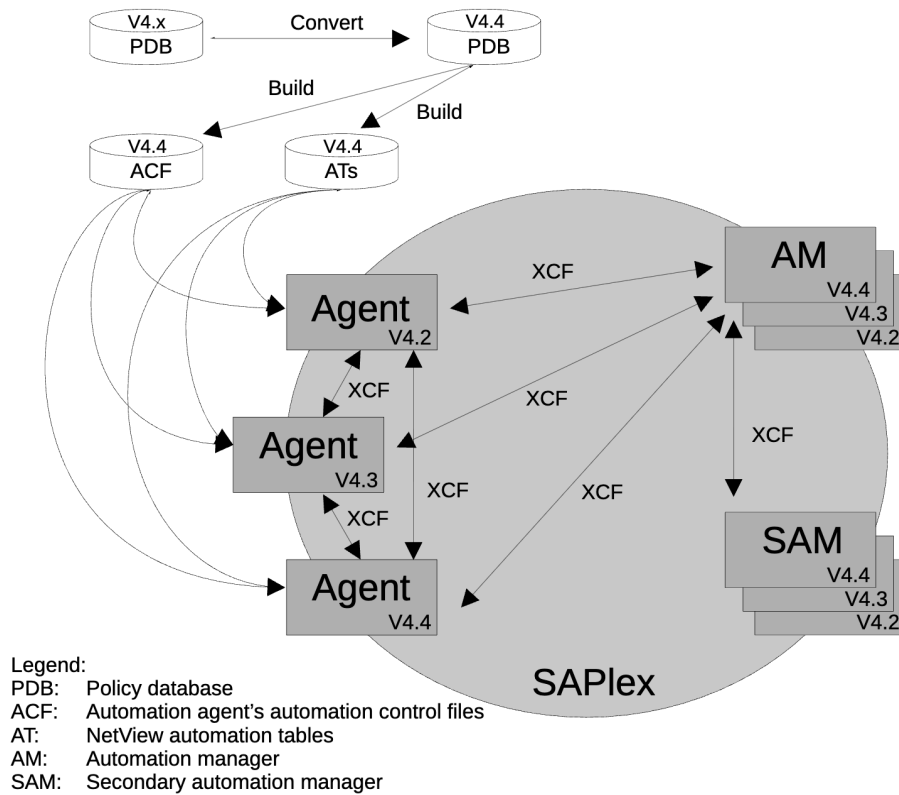

Figure 14. Coexistence of System Automation 4.4, 4.3, and 4.2
SA z/OS® 4.4 systems can coexist with System Automation 4.3 and 4.2 systems in the same sysplex. Figure 14 on page 201 illustrates this coexistence: it shows a sysplex with three automated systems and a separate automation manager (AM) and its secondary automation manager (SAM).